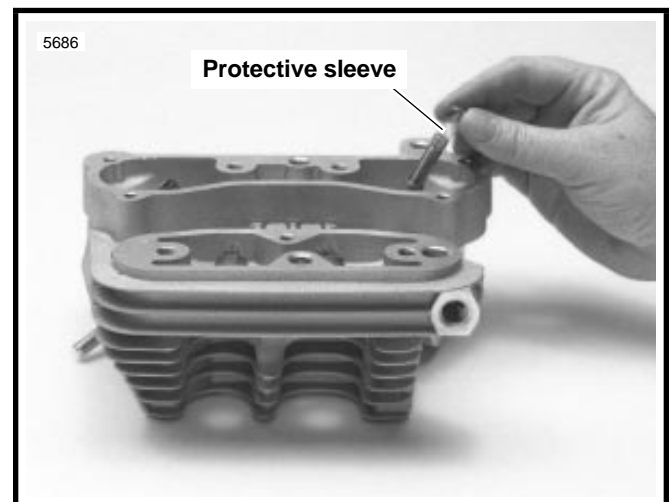

Figure 3-25. Valve Guide Seal Protector Sleeve
6. See Figure 3-25. Place a protective sleeve over the valve stem keeper groove. Coat the sleeve with oil and place a **new** seal over the valve stem.